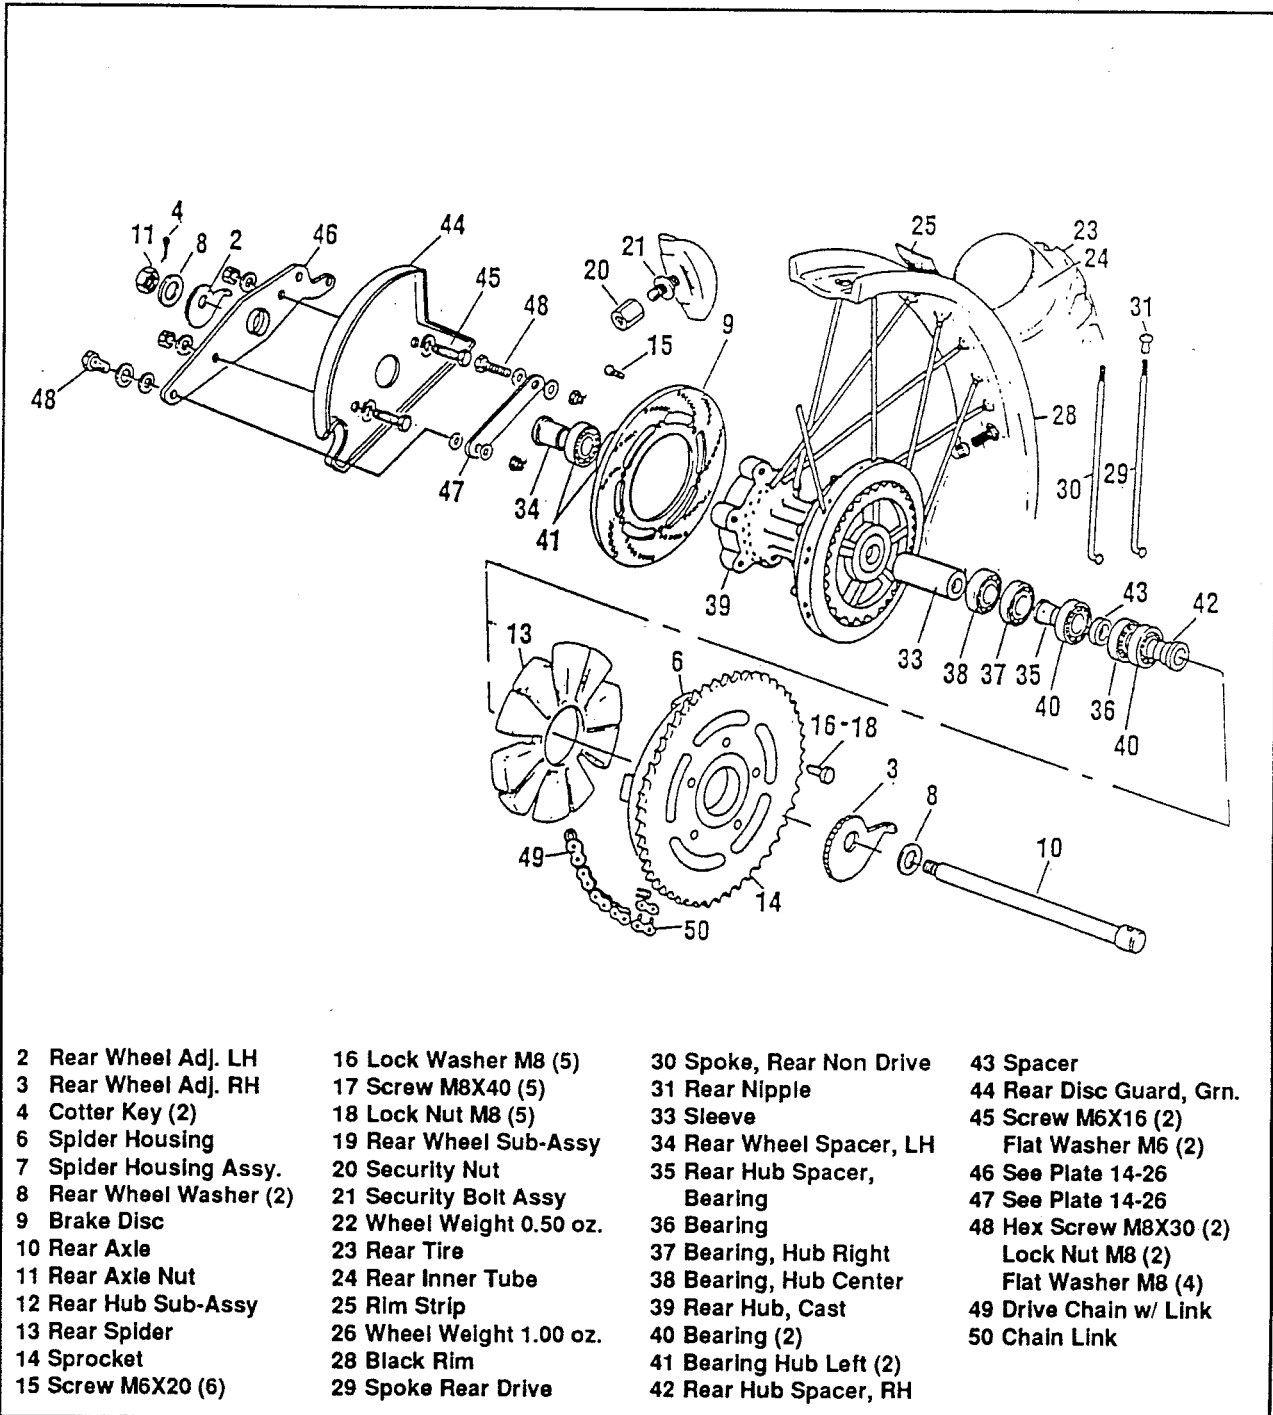

Figure 5-63. Rear Wheel
(Figure 5-63)
2. See Figure 5-63. Use fabricated wheel hub bearing removal/installation tool and hammer and drive the opposite side wheel hub bearing out from the inside. Center the inner spacer and drive spacer against the edge of the inner bearing race with the tool.
2. See Figure 5-63. Turn hub over and place inner spacer into the hub. Use the fabricated tool, one of the old bearings and arbor press to press a new bearing into the hub. Press bearing into the hub until the bearing edge is flush with hub flange.